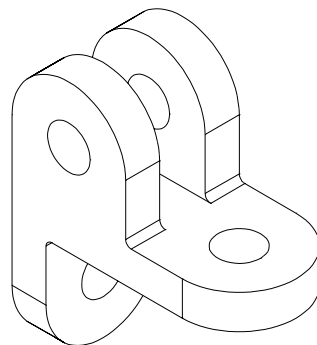

Figure 27-26 The final model for Example 3
13. The final model for Example 3 should look similar to the one shown in Figure 27-26.